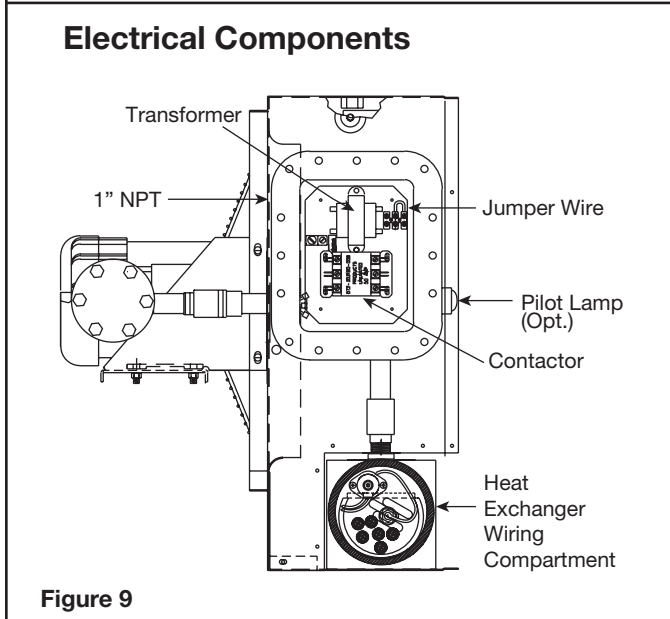
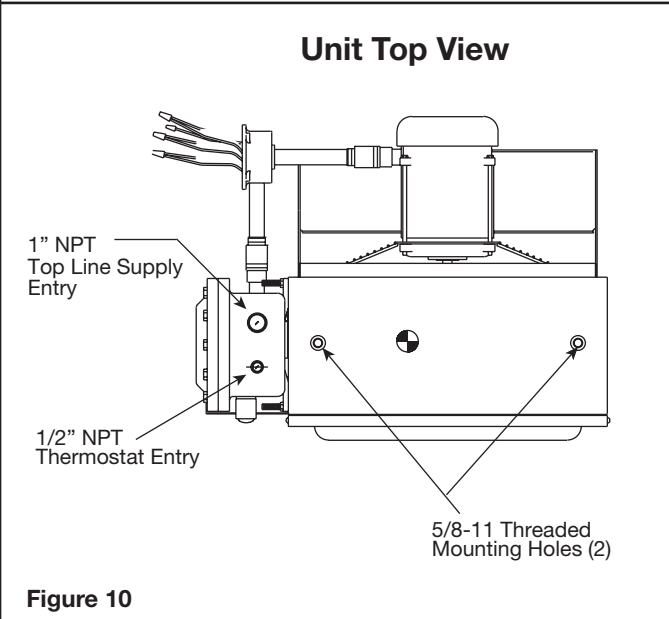

Figure 9
Figure 10
- Loosen and remove bolts securing the main terminal enclosure cover on side of unit. Connect heater to line supply wires at the box lugs located on the contactor according to the voltage and frequency specified on the nameplate (see Figure 9). Refer to the appropriate wiring diagram which also appears on the inside cover of this enclosure (see Table B and diagrams on page 6).
- Either of two 1 NPT rigid conduit openings with integral stops may be used for connection to supply line. (See Figure 9 and 10 for locations) Use only NEC approval hazardous locations means of wiring such as mineral insulated cable and fittings or rigid conduit and seal fittings located as required by installation codes.
- To operate heaters from an externally mounted hazardous location thermostat, a terminal block is provided for connection (Figures 9 and 10). Remove the factory installed jumper across T2 and T3 on the terminal strip. Wire the thermostat contact leads to these terminals. The built in control transformer supplies the unit with either 24V or 120V for internal unit operation. This voltage will appear across the thermostat contacts when they are open. The minimum thermostat contact rating should be 1 amp @ 120 VAC. Refer to nameplate for control voltage of unit. The 1/2 NPT conduit wiring entry on top of the terminal enclosure should be used to wire the thermostat to the heater (Figure 10).
9. Protection against overheating is provided by a high temperature cutout located within the heat exchanger wiring compartment. (Figure 9) Activation of the control will open the control circuit and energize the pilot lamp (if supplied). If normal airflow is restricted, or stopped, the unit will be cycled off by the high temperature cutout. The high temperature cutout is also designed to shut down the unit completely if the fluid level is low or other heater malfunction occurs.